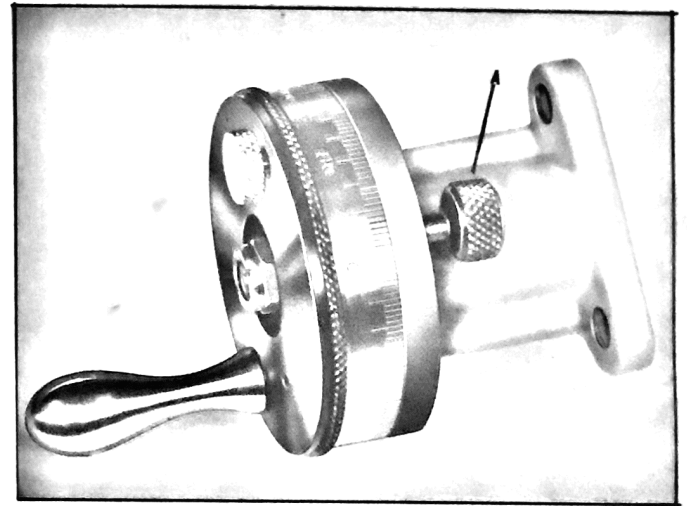

Fig. 10 A
Rockwell 11" Lathes are equipped with a built in thread stop, as shown in Fig. 10-A. This photograph shows the bottom side view of the stop for clarity.
When cutting threads the compound slide is usually set at  $29^\circ$ , and the proper tool holder and thread cutting tool is adjusted in relation to the stock. Push in the knurled knob (A) Fig. 10-A to engage the thread stop and turn the cross slide handwheel clockwise until it engages the stop. Move the compound slide in until the cutting tool just touches the work. Back out the cross slide and move the carriage until the tool is away from the work and clear of the end. Then move the cross slide in against the stop and proceed cutting by engaging the half-nuts.